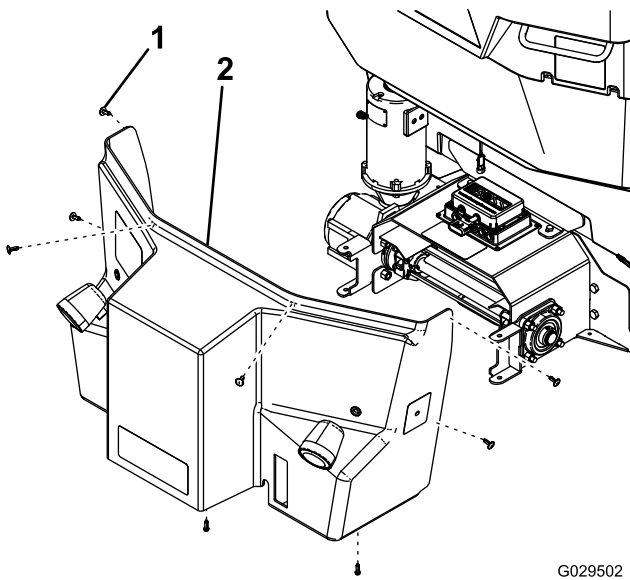

Figure 21
3. Remove the plastic clips securing the front cover to the hopper (Figure 21).